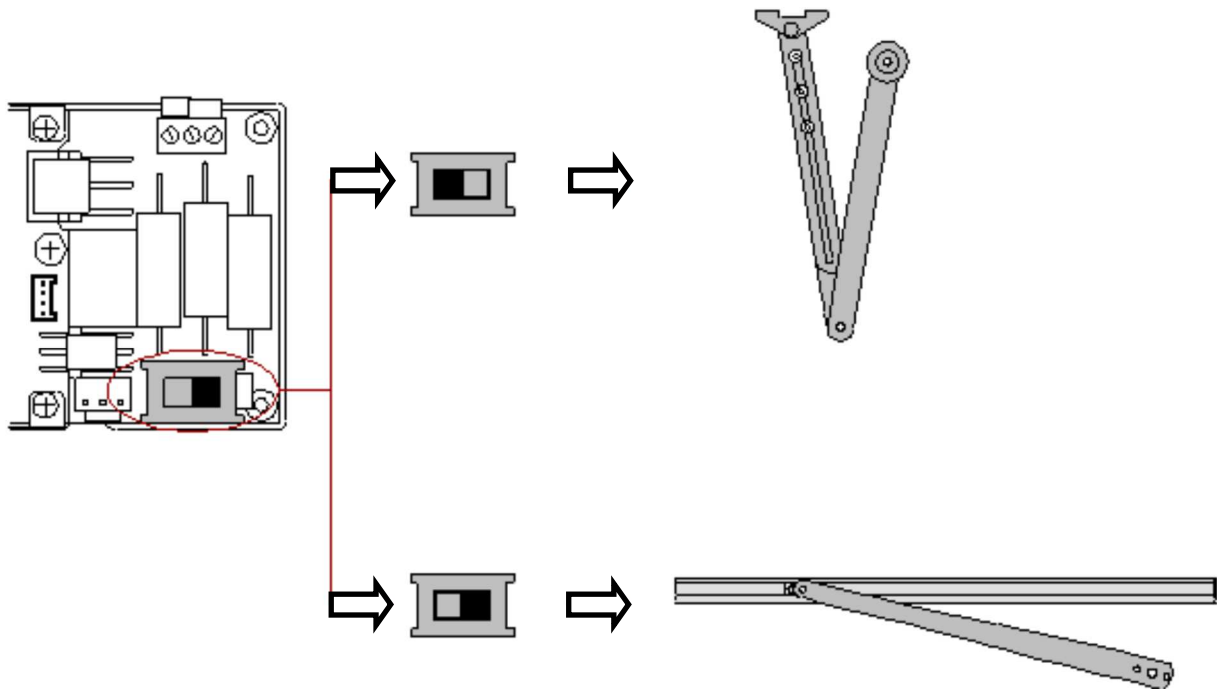

Fig. 11.
**WARNING:** After installing the rigid arm and the guide, ALWAYS check that the Switch position is to the right, as shown in Fig. 11.
→ Configure the right program switch as shown in Fig. 11.
→ Configure the left program switch as shown in Fig. 11.